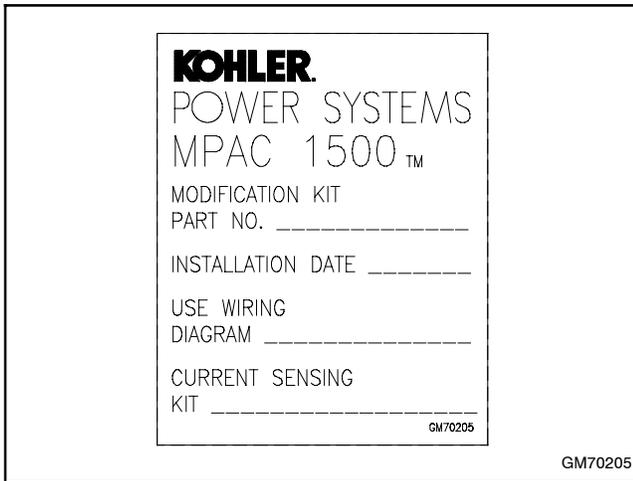

Figure 23 Decal GM70205
22. Record the required information on decal GM70205. See Figure 23. See Figure 6 for current sensing kits and Figure 27 for wiring diagram numbers.